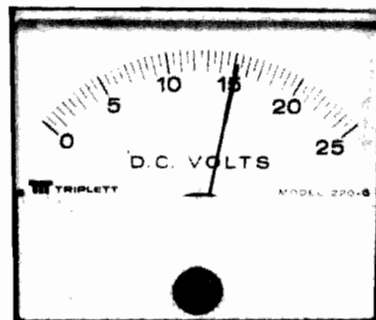

Figure 2-4
1. A linear meter scale is marked in equally spaced divisions across the face of the meter. Figure 2-4 shows a linear meter scale. The major divisions, called *primary* divisions, are usually numbered. Between the primary divisions are smaller divisions called *secondary* divisions. To read this scale, note the number of secondary divisions between the numbered primary divisions and determine the value of each secondary division. The scale shown has 10 subdivisions.
What is the value of each secondary division in Figure 2-4? _____